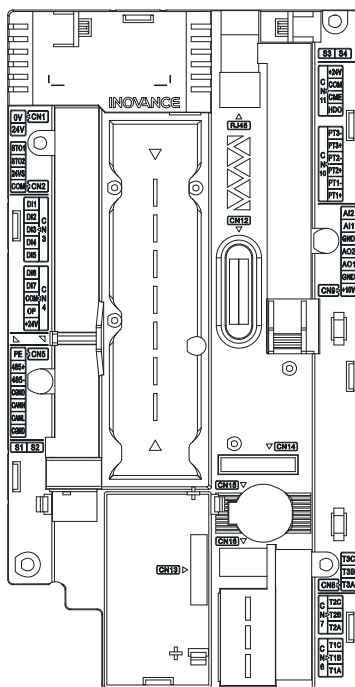

Figure 5-7 Layout of control circuit terminals
*"Figure 5-7 Layout of control circuit terminals" on page 52* shows the layout of control circuit terminals.